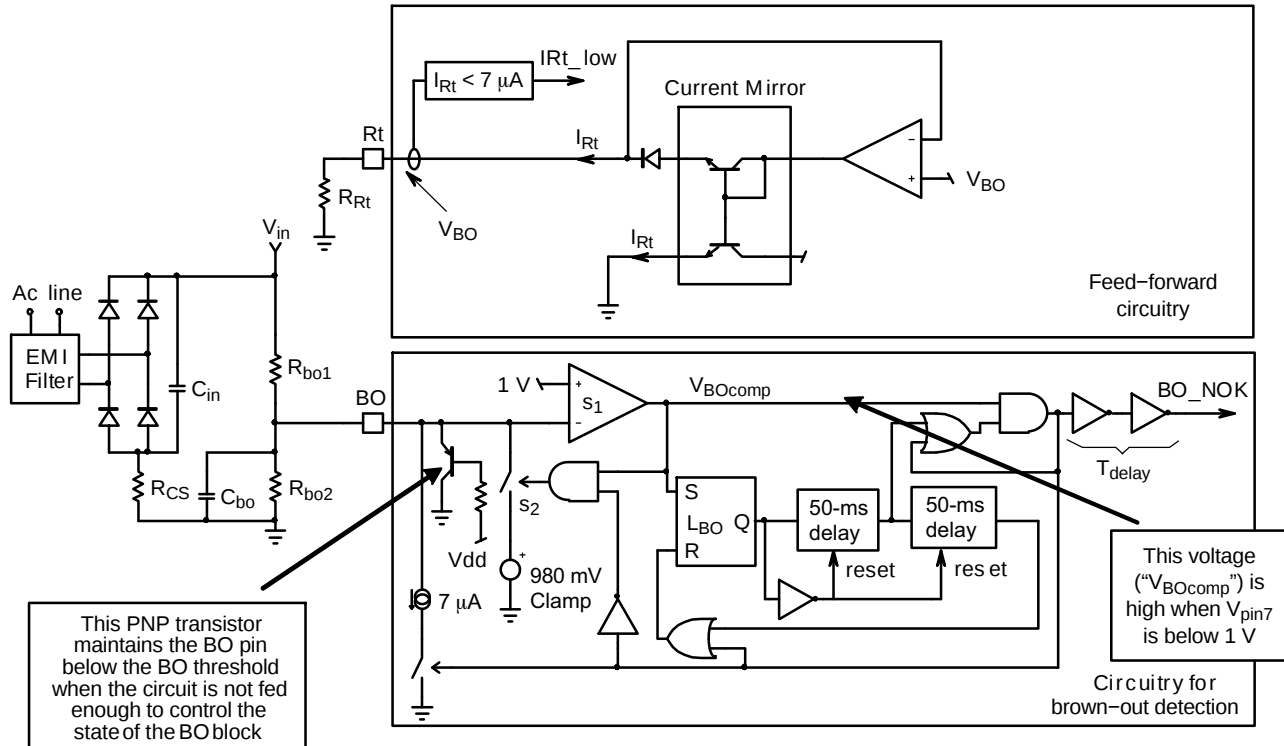

Figure 19. Brown-out Block
In nominal operation, the voltage applied to pin7 must be higher than the 1 V internal voltage reference. In this case, the output of the comparator BO_Comp (V_{BOcomp}) is low (see Figure 19).
can be detected. This is the role of the second 50-ms timer of Figure 19:
- The OPAMP output is separated from pin7 (Figure 19) to prevent the operational amplifier from maintaining 1 V on pin7 (as done by the switches s_1 and s_2 in the representation of Figure 19). Instead, V_{pin2} drops to the value that is externally forced (by V_{in} , R_{bo1} , R_{bo2} and C_{bo2} in Figure 19). As a consequence, the OPAMP output remains high and the “ BO_NOK ” signal stays high until the line recovers.
As shown by Figure 19, The BO circuit also generates an internal current proportional to the input voltage average value (I_{Rt}). The pin7 voltage is buffered and made available on pin 3. Placing a resistor between pin 3 and ground, enables to adjust a current proportional to the average input voltage. This current (I_{Rt}) is internally copied and squared to form the charge current for the timing capacitor of each phase. Since this current is proportional to the square of the line magnitude, the conduction time is made inversely proportional to the line magnitude. This feed-forward feature makes the transfer function and the power delivery independent of the ac line level. Only the regulation output (V_{REGUL}) controls the power amount. If the I_{Rt} current is too low (below 7 μ A), the controller goes in OFF mode to avoid damaging the MOSFETs with too long conduction time.